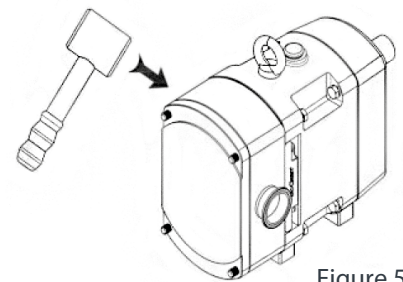

Figure 5
- b) Next remove the cover. If it is stuck, tap on the cover with a soft-faced hammer (Figure 5).